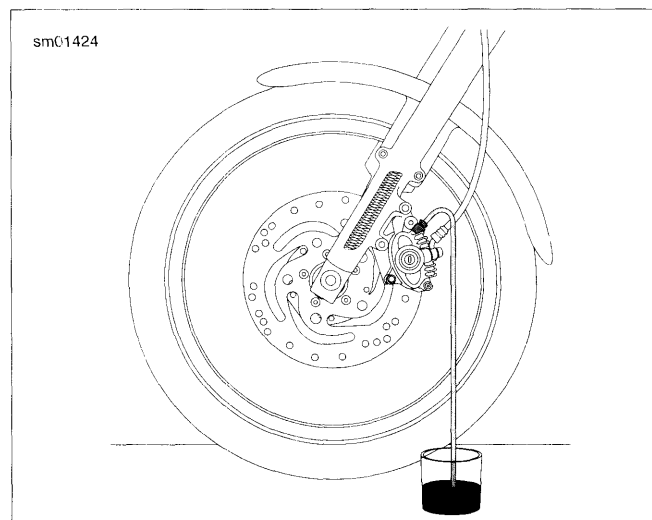

Figure 2-72. Bleeding Hydraulic System (typical; XL model shown)
2. See Figure 2-72. Install end of a length of 5/16 in. (7.9 mm) I.D. clear plastic tubing over caliper bleeder valve, while placing free end in a suitable container. Open bleeder valve about 1/2 turn. Pump brake hand lever repeatedly to drain brake fluid. Close bleeder valve.